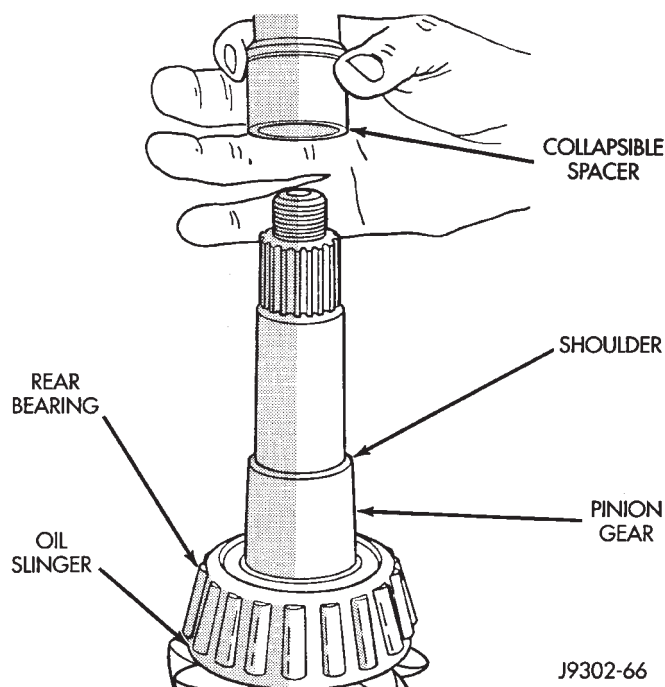

Fig. 54 Collapsible Preload Spacer
(4) Install a new collapsible preload spacer on pinion shaft. Install the pinion gear in housing (Fig. 54).